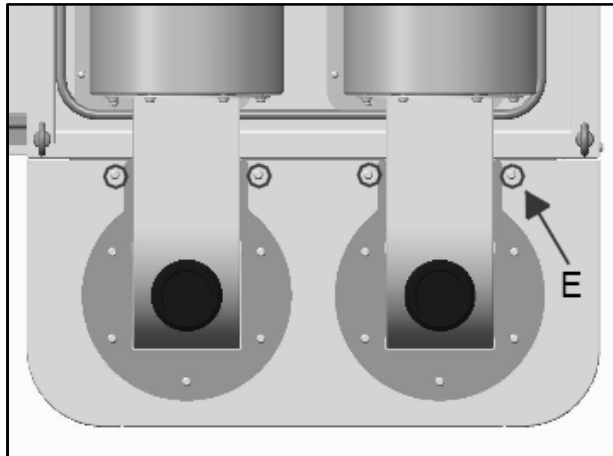

Fig.4
As shown in **Fig.4** , remove 4 locking screws (E) , then remove the filter cover.